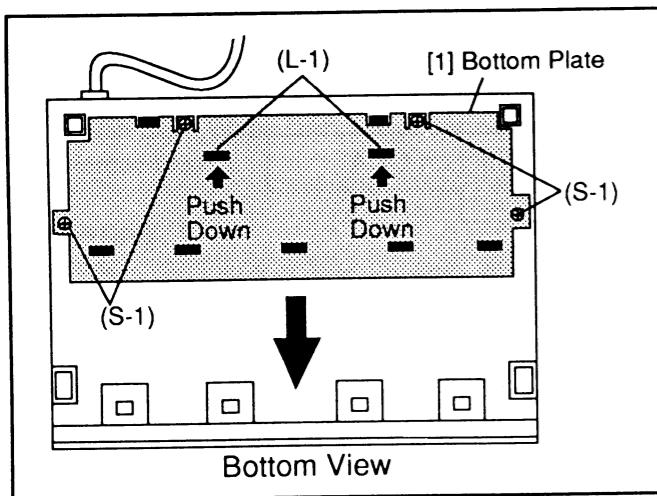

Fig. 1
1. Remove 4 Screws (S-1), and slide the Bottom Plate in the direction of arrow while pushing down 2 Locking Tabs (L-1). (Fig. 1)